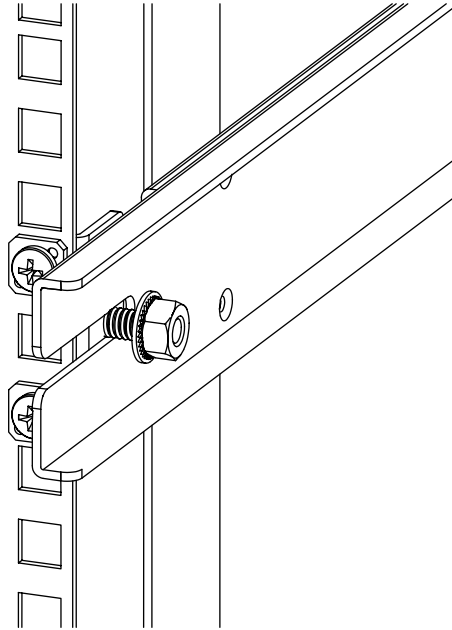

Figure 3: Installing the Outer Rails (HP 10,000 Series Rack)
- a. Attach the left outer rail and the right outer rails to the rear mounting brackets using two 1/4-20 hex nuts with captive star lock washers. Attach the hex nuts loosely (as shown in Figure 3). Do not tighten; tighten the hex nuts later in step 12 on page 17.
12. Tighten the hex nuts installed in step 4 on page 10. See Figure 3.